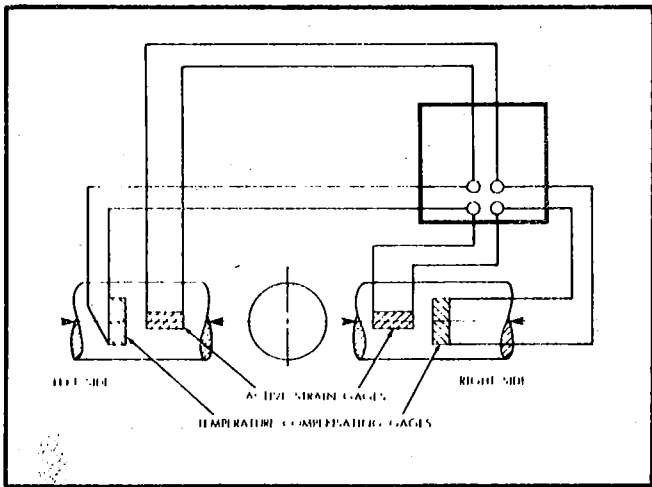

FIGURE 6-10 CONNECTING STRAIN AND COMPENSATING GAGES TO MEASURE THRUST, LOAD OR TENSION
2. Minor changes in the modulus of elasticity (E) of the material due to temperature changes are neglected.
3. In Figures 6-10 and 6-11 transverse effects are neglected.
This Poisson's (P_r) arrangement of strain gages is frequently used to measure strain produced by axial thrust, load or tension by mounting four gages directly on the material under test. Two active gages are mounted parallel to the center line (axial) but on opposite sides of the member. The two temperature compensating gages are mounted at right angles to the two active gages. As shown in Figure 6-10, the two active gages are connected in opposite arms of the bridge to add their output and each of the other gages is connected adjacent to an active gage which not only provides temperature compensation, but increases the bridge output in accordance with Poisson's Ratio (P_r) for the material involved.
When the four gages are mounted on a member of uniform cross-section and connected in the four arms of a Wheatstone bridge as indicated in Figure 6-10, the output of the bridge, for a change in axial thrust, load or tension will be: